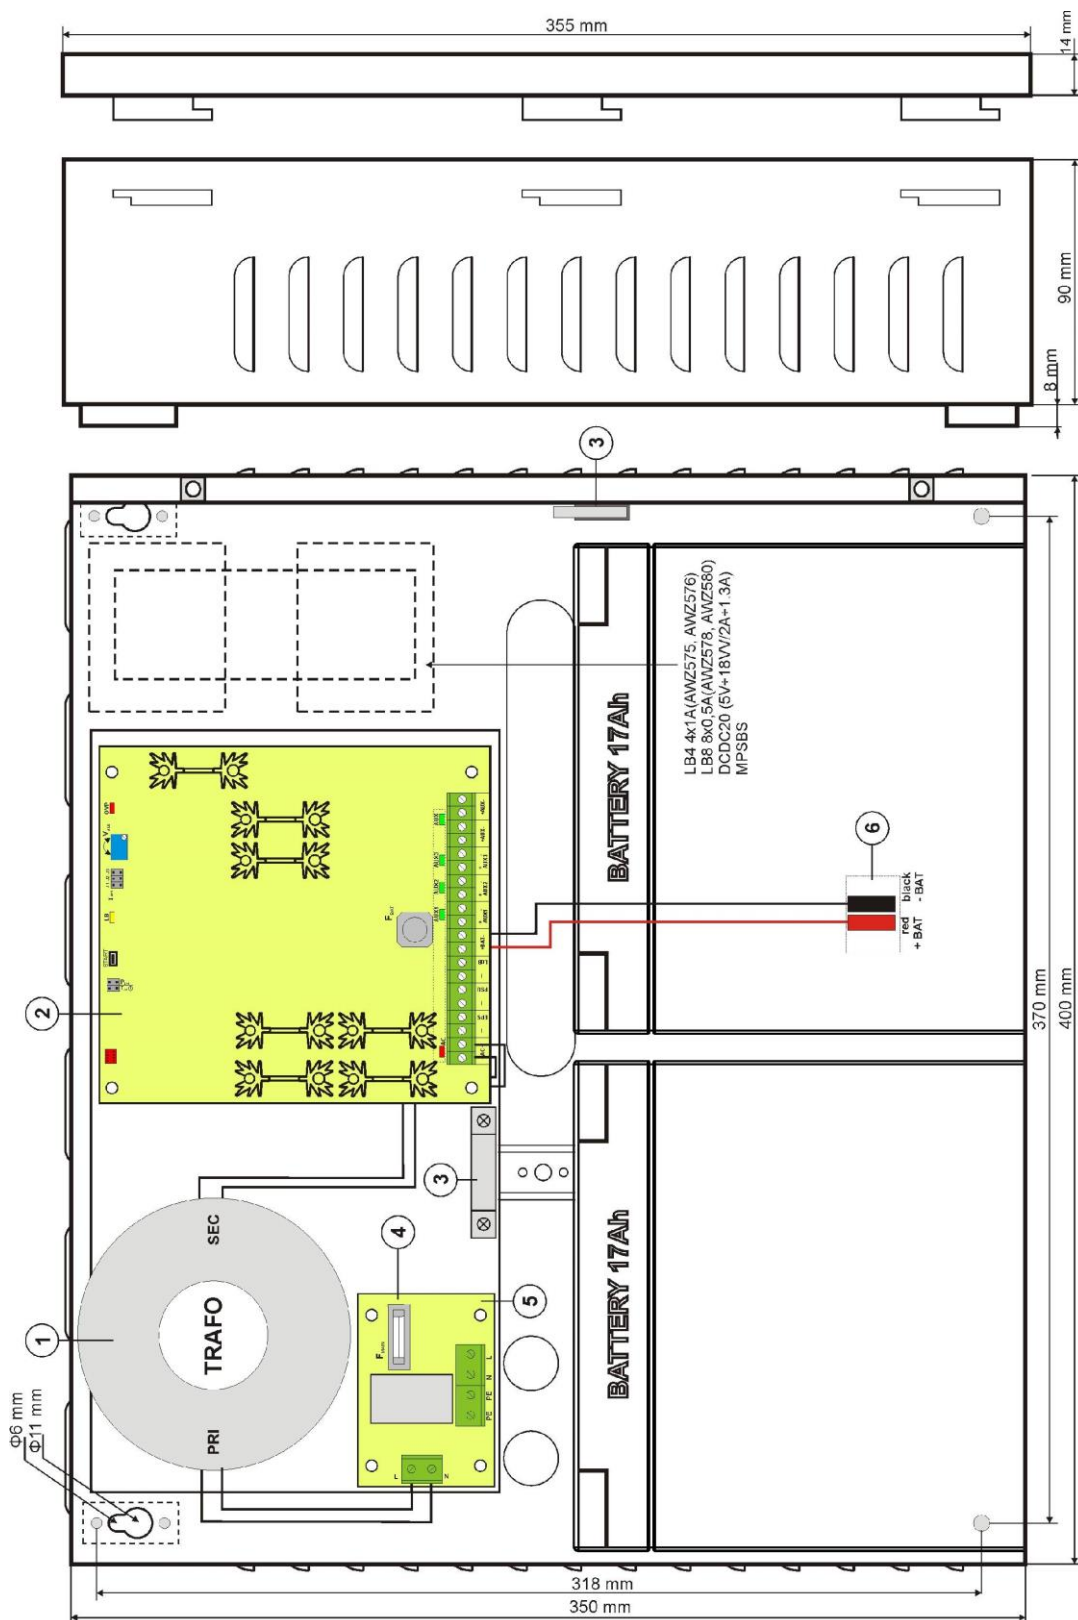

Fig.3. The view of the PSU.
Table 2. Components of the PSU (See Fig. 3).
2. Mount the PSU in a selected location. The tamper bracket, located in the central part of the housing (see Fig. 3 [3]), signaling the attempts to detach the PSU from the mounting surface, should be screwed to the mounting surface.
8. Mount the battery in the battery compartment of the enclosure (Fig. 3). Connect the batteries with the PSU paying special attention to the correct polarity.